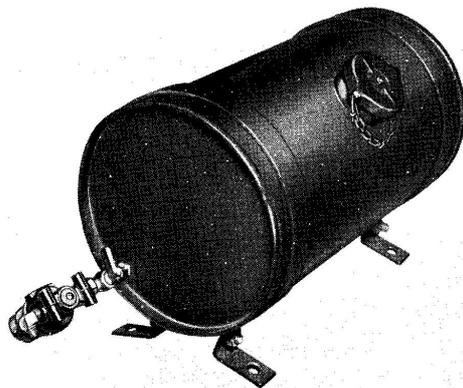

Fig. 25. Shutoff cock, fuel filter and 90° elbow connected to fuel tank.
- f. Install a 90° elbow into the fuel filter, Fig. 25.